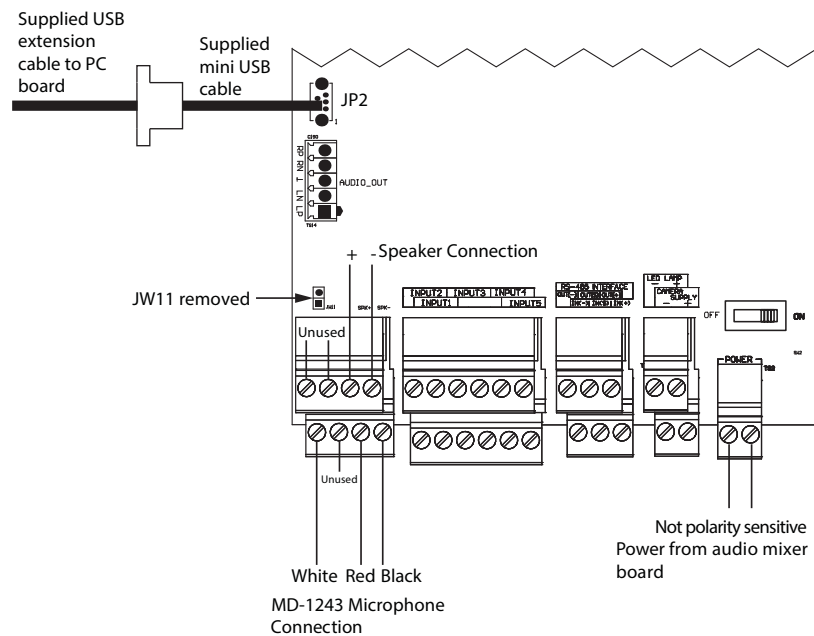

Figure 4 Speaker, microphone, mini USB, and power connections
3. Connect the speaker and microphone as shown in Figure 4.
4. Connect the supplied mini USB cable to JP2 as shown in Figure 4.
2. Connect the power harness to the new board as shown in Figure 4.